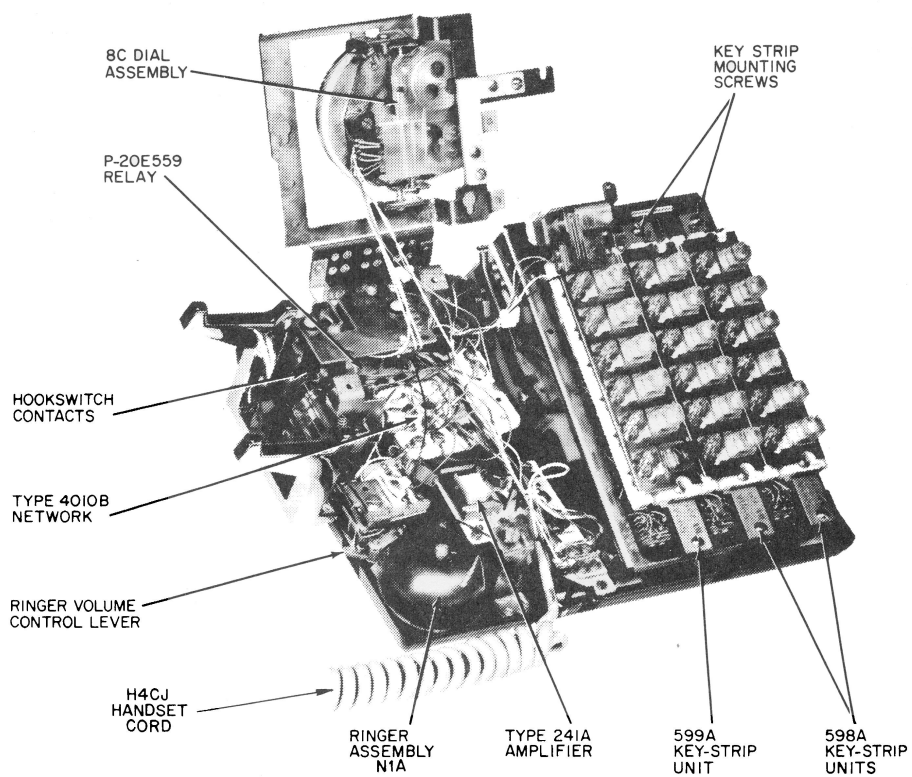

Figure 3. WECO Type 618BW Telephone Set with Housing Removed and Dial Assembly Raised and Inverted.
inches high. The telephone sets are equipped with 517D jacks for accepting either a 52S or 53A headset. A Type 8C dial is mounted on the left side of the housing. The keys used for the various switching functions are located on the right side of the housing (Figure 3). The Type 608CW telephone set is equipped with a 599A keystrip unit in the first (left side) module position and 598A keystrip unit in the second through fifth module positions. The Type 618BW telephone set is equipped with a 599A keystrip unit in the first module position and 598A keystrip units in the second and third positions. Red flash and amber release push-buttons are located above and adjacent to the dial.
5.08 The ringer volume adjusting lever (Figure 3) projects from the lower left front of the telephone set. It is a me-